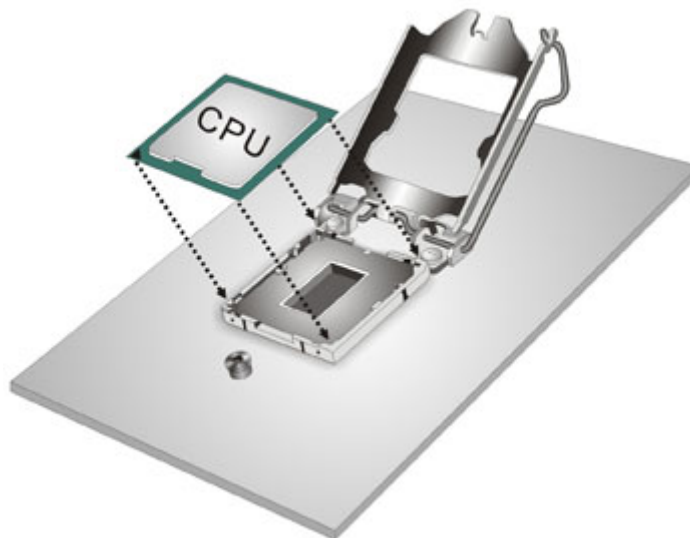

Figure 3-9: Insert the Socket LGA1151 CPU
Step 8: Insert the CPU. Gently insert the CPU into the socket. If the CPU pins are properly aligned, the CPU should slide into the CPU socket smoothly. See **Figure 3-9**.